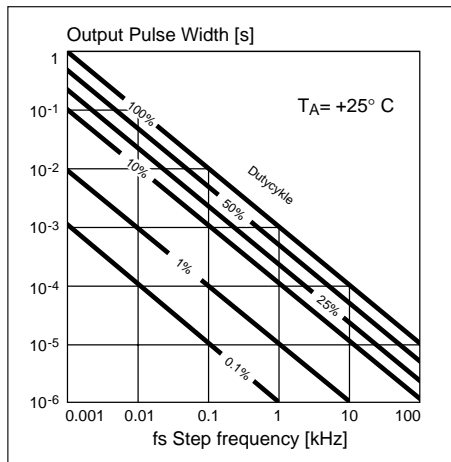

Figure 9. Typical t_{on} vs. f_s/dc . Output pulse width vs. step frequency/duty cycle.
- Figures 9 and 10 give the relationship between motor currents and their dissipations. The sum of these power dissipations must never exceed the previously-established value, or life expectancy will be drastically shortened.
- When no bilevel or voltage doubling is utilized, the maximum motor current can be found directly in figure 9.